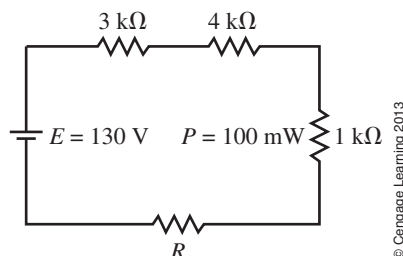

FIGURE 5–57
14. The circuit of Figure 5–58 has a current of 2.5 mA. Find the following quantities: